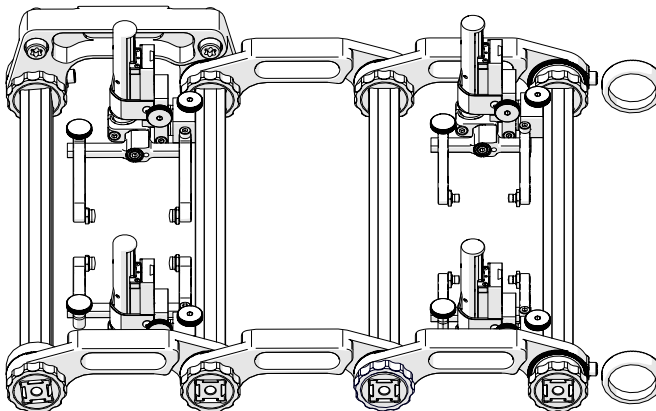

Fig. 150 - Install the caps on the new probe holder frame
14. Using these previous methods and instructions, install the caps on the new probe holder frame (Fig. 150).